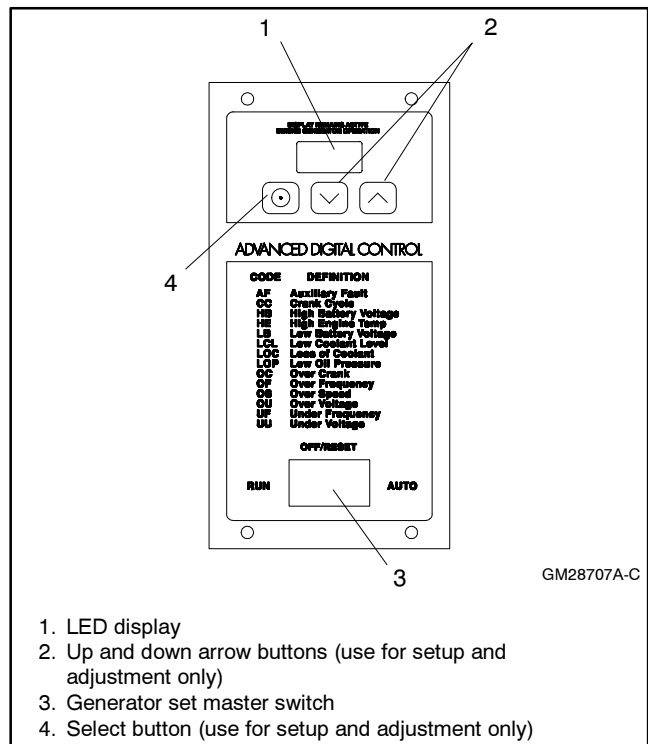

Figure 7 Advanced Digital Controller User Interface
33. Press and hold the Select button on the ADC controller. See Figure 7. Move the generator set master switch to the RUN position. (The generator set will not start if the Select button is pressed.)